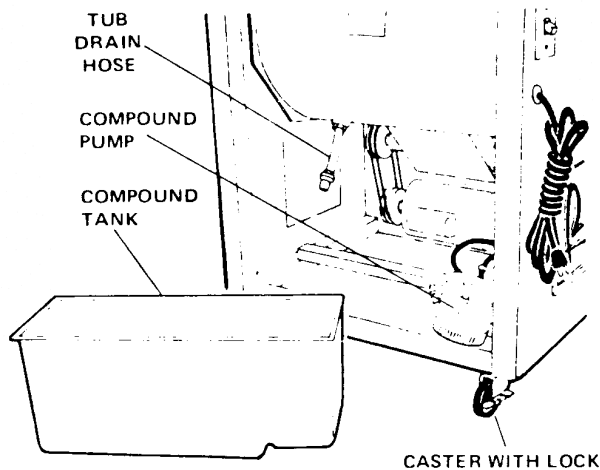

Figure 2-5. Compound Tank Removed (Model 2016)
5. Remove compound tank from unit. (See fig. 2-5.)
NOTE: One of the casters has a brake (large wing type nut on side of wheel). The most convenient location for the brake caster is the corner directly under the motor starting switch. (See fig. 2-5.)